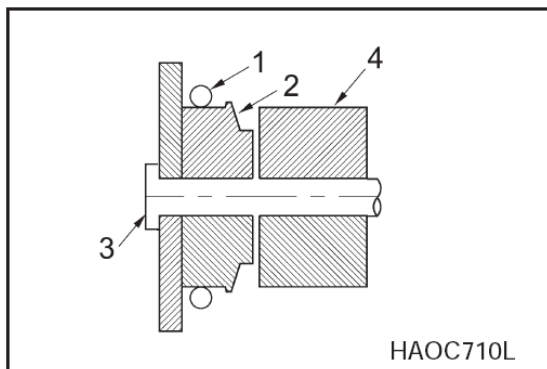

Fig.8
2. Move O-ring seal (1, Fig.8) onto bushing (2), then, remove the bucket pin (3) and extract the bucket connecting rod(4).
4. Align the bucket connecting rod cover and the bucket link pin hole, and install bucket pin (3, Fig. 8).